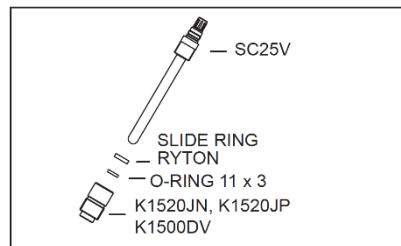

Figure 5: PG13.5 => M25 adapter
- For mounting in Yokogawa fittings, a PG13.5 to M25 adapter is available in different materials (see fig 5).